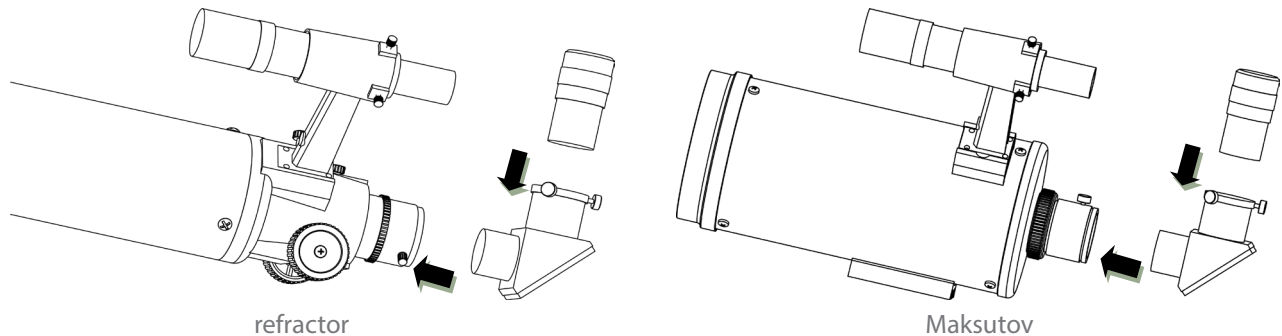

Fig.4.2.1a
1. Inserting eyepiece for refractor and Maksutov(Fig.4.2.1a)